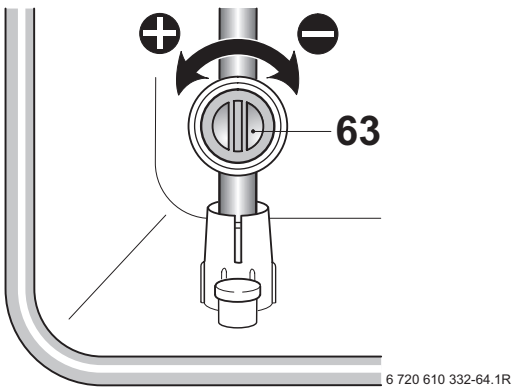

Fig. 46
- ▶ Adjust the gas flow restrictor (63) to obtain the CO2 level given in Table 17. Refer to fig. 46.